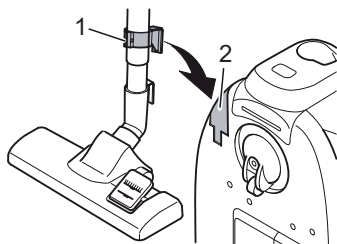

Fig.15
■ For **storage**, you can hook the stow-away hook (Fig. 15/1) of the telescopic tube into the stow-away hook mount (Fig. 15/2) below on the cylinder vacuum cleaner.